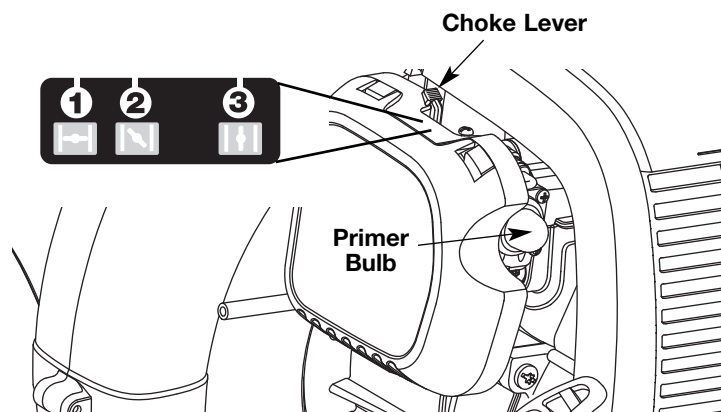

Fig. 15
3. Fully press and release the primer bulb 10 times, slowly. Some amount of fuel should be visible in the primer bulb and fuel lines (Fig. 15). If you can't see fuel in the bulb, press and release the bulb as many times as it takes before you can see fuel in it.
4. Place the choke lever in **Position 1** (Fig. 15).
IF... the engine does not start, place the choke lever in **Position 2** (Fig. 15) and pull 4 times in smooth and rapid pulls to start engine.
6. Place the choke lever in **Position 2** (Fig. 15) and allow the engine to warm up for 5–10 seconds.
7. Place the choke lever in **Position 3** (Fig. 15). The unit is ready for use.